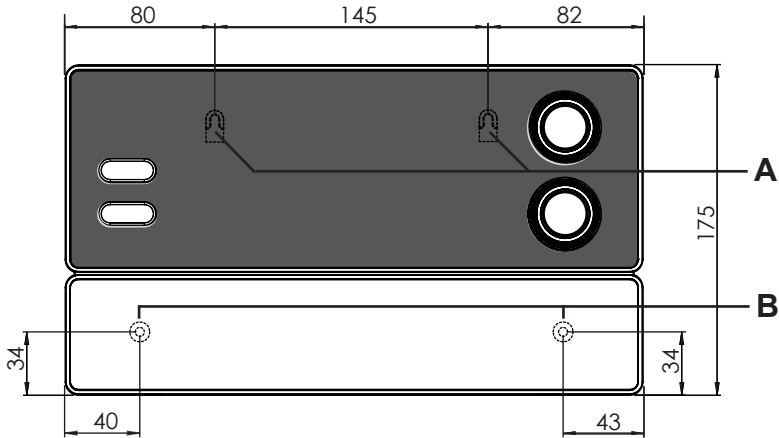

Fig.1 Position of the attachment device and the installation holes (dimensions in mm)
1. Screw two cross-head screws (16 mm) into the wall of the sauna at a height of approx. 1.70 m and leaving a protruding length of 7 mm. The two screws must be placed at a distance of 145 mm from each other (see **Fig.1**).
3. Fasten the sauna control unit onto the cross-head screws using the attachment device **A** as an aid (see **Fig.1**).
4. Screw two cross-head screws (16 mm) into the lower fastening holes **B** (see **Fig.1**).